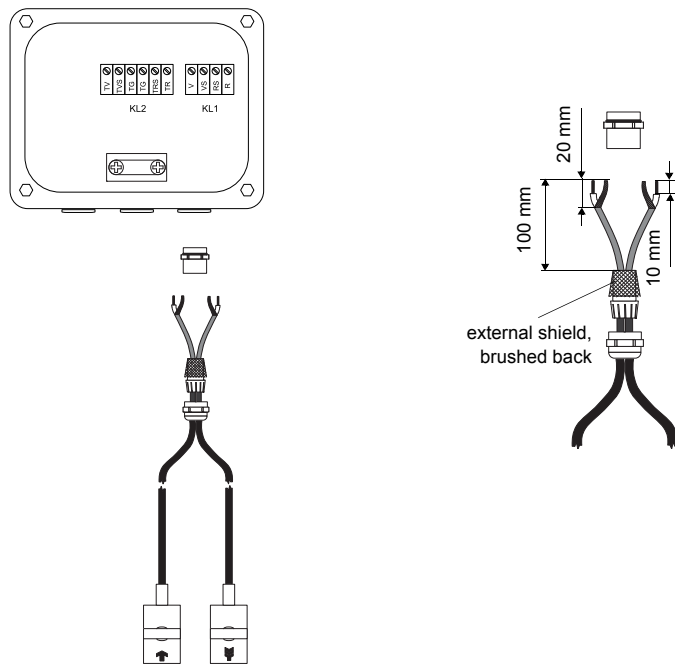

Fig. 6.8: Transducer cable with plastic cable jacket and stripped cable ends
- Remove the right blind plug for the connection of the transducer cable (see Fig. 6.8).
- Connect the transducer cable to the terminals of the junction box (see Fig. 6.8 and Tab. 6.4).